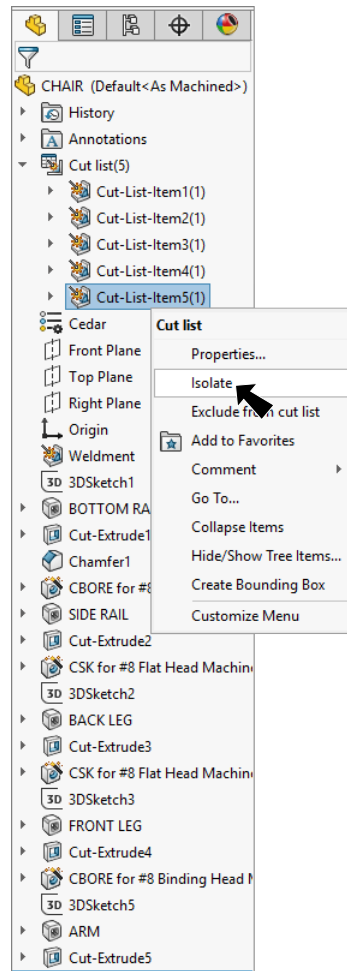

Fig. 22
Step 1. **Isolate Arm Feature.** To Isolate, expand Cut list folder  in the Feature Manager. **Right click Cut-List-Items5**  and click **Isolate** on the context toolbar, **Fig. 22**.